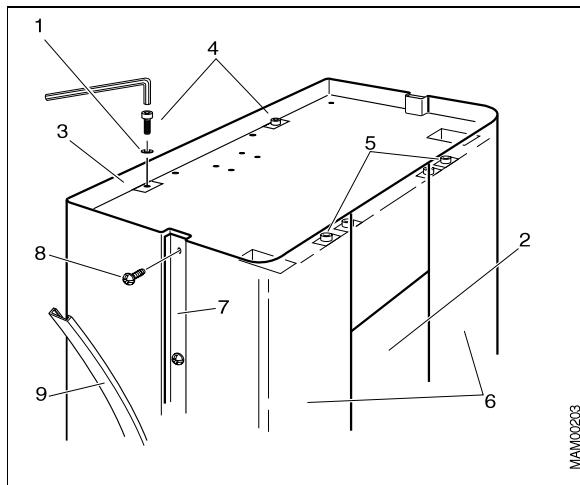

Fig. 3: Covers
- All covers of the stand (3, 6/Fig. 3 / p. 15)